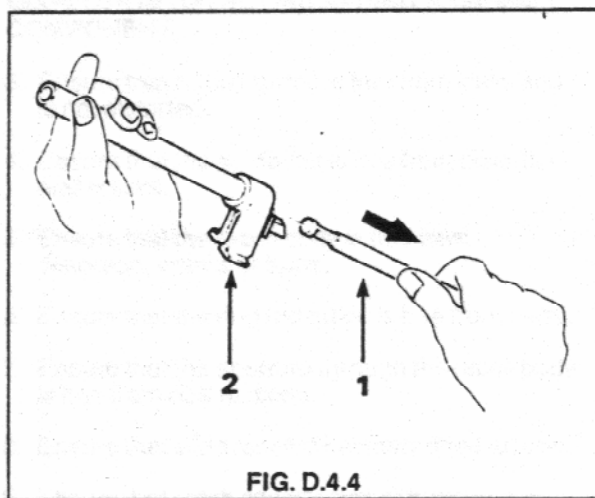

FIG. D.4.4
4. Withdraw the guide rod through the headed end of the recoil body. See Fig. D.4.4